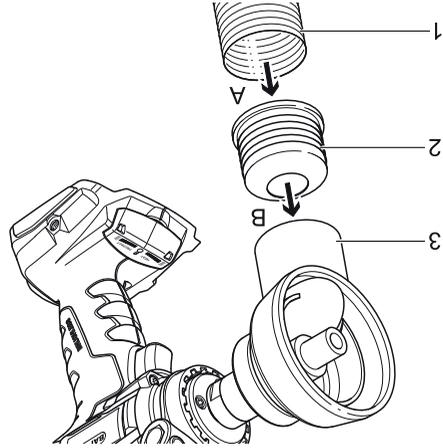

Fig. 9: Mounting the extraction hose
1. Pull the extraction hose (1) with hose adapter (2) out of the vacuum cleaner adapter (3) (→ Fig. 9: Mounting the extraction hose: Page 32).